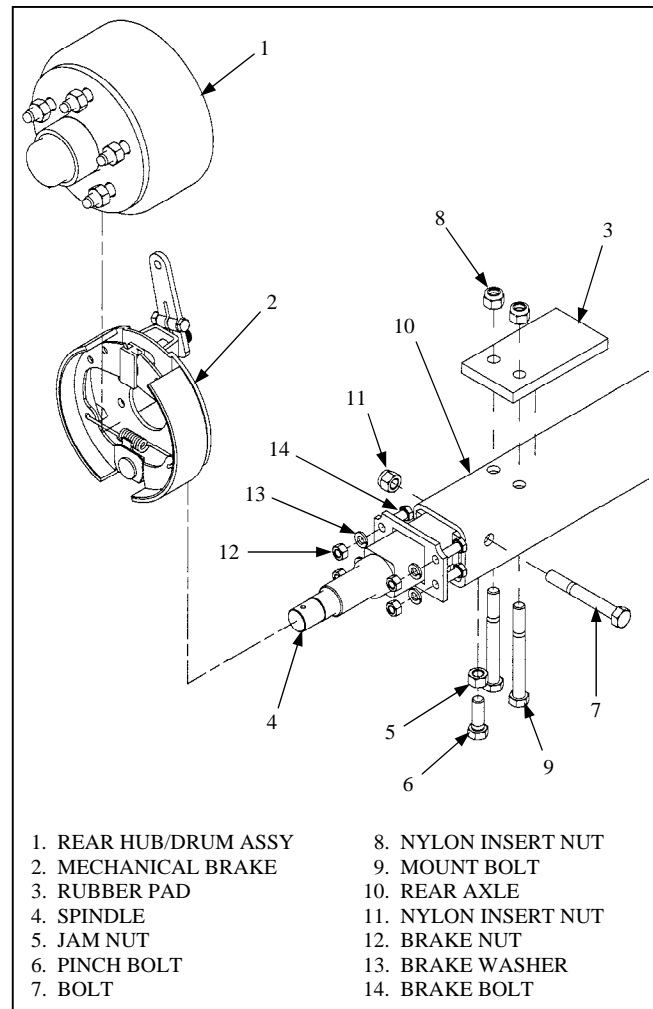
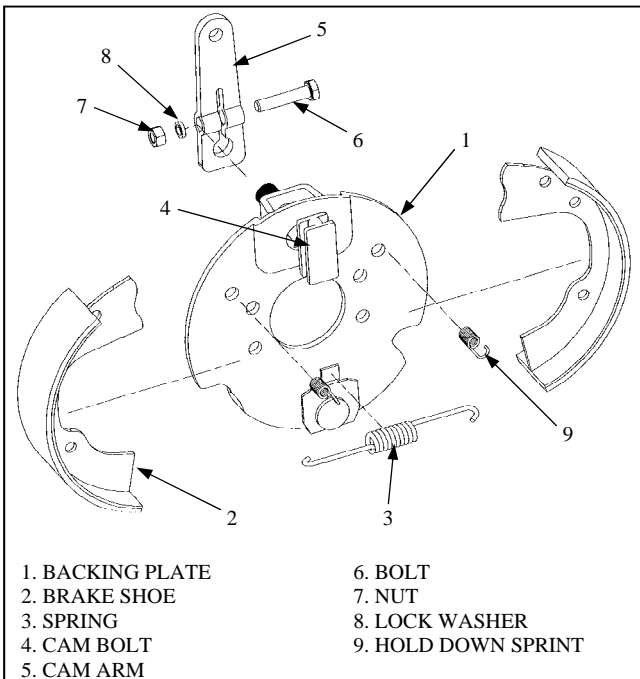

Figure 5-16. Rear Undercarriage
Figure 5-18. Mechanical Parking Brake
5.3.9 Rear Undercarriage Assembly. See Figure 5-16 for the following maintenance steps. The rear undercarriage assembly consists of: a wheel assembly, a hub and brake drum assembly (1), a mechanical parking brake assembly (2), a rear spindle (4), and the axle (10).
- c. Remove nut (15) and remove cable housing (10) from bracket.
- d. Remove nut at opposite end of cable and disassemble cable linkage parts (6), (7), (8), and (9).
- f. Remove nut (4) to release cable equalizer (5).
- h. Remove nut at opposite end of cable and release cable by disassembling cable linkage from brake handle (1).
- i. Remove bolts (2) and nuts (3) to free brake handle (1).
5.3.9.3.2 Mechanical Brake Assembly. The mechanical brake assembly is disassembled by following the steps described here. The assembly can be disassembled while attached to the rear spindle or removed from the unit. See Figure 5-18.
- c. Remove brake cable end from arm (5) as described in Paragraph 5.3.9.3.1, step (a).
- d. Remove nuts (12), washers (13), and bolts (14) shown in Figure 5-16.
5.3.9.4 Rear Spindle. To remove the rear spindle, follow the maintenance steps described in this paragraph. See Figure 5-16.
- d. Loosen jam nut (5) and remove bolt (6).
- e. Remove nut (11) and bolt (7).
- f. Pull rear spindle (4) directly outward to free from axle tube (10).
5.3.9.5 Rear Undercarriage Assembly Removal. To remove the entire Rear Undercarriage assembly, the equipment must have the back end raised. See Figure 5-16 for